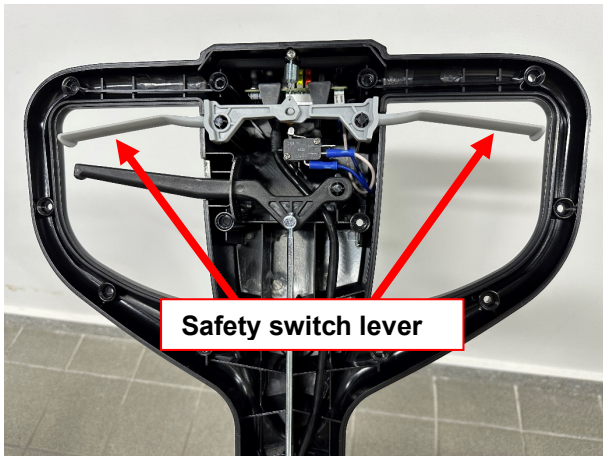

Figure 9
8. Remove the safety switch lever assembly (Figure 9).